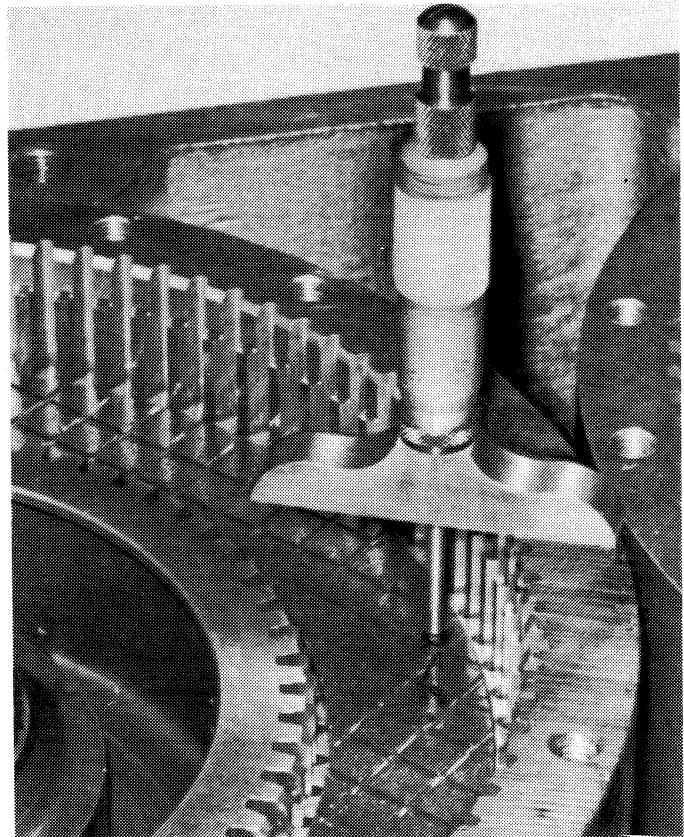

Figure 9-14. Measuring for Clutch Release Shim.
a. Measure the distance from the rear of the clutch drive sleeve to the first clutch plate. See Figure 9-14.